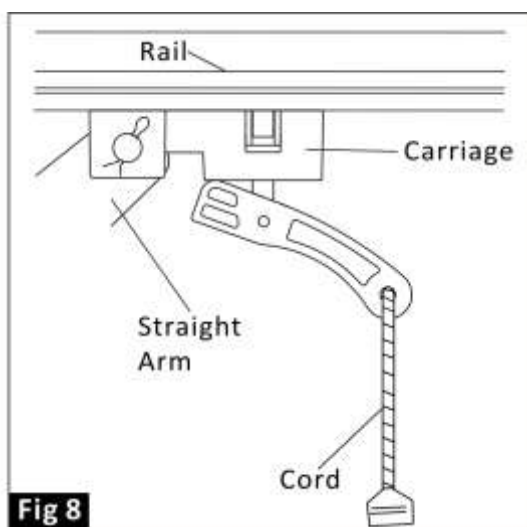

Fig 8 Manual/Disengaged Position
- 11.1 To disengage the Opener from the Garage Door, pull down on the Red Coloured Disengage Cord. (Fig.8)
- 18.5 Using Figure 8 Cable, strip back and connect the 2 strands of one end of the cable to each of the 2 terminals located on the outer cover of each Safety Beam.
- 22.1 A hard wired Wall Switch (normally open, dry contact) can be connected to the Opener using Figure 8 Cable. Connect the wires to the 2 terminals located under the light cover on the logic board marked "GND" and "PBSW". (Fig.14).